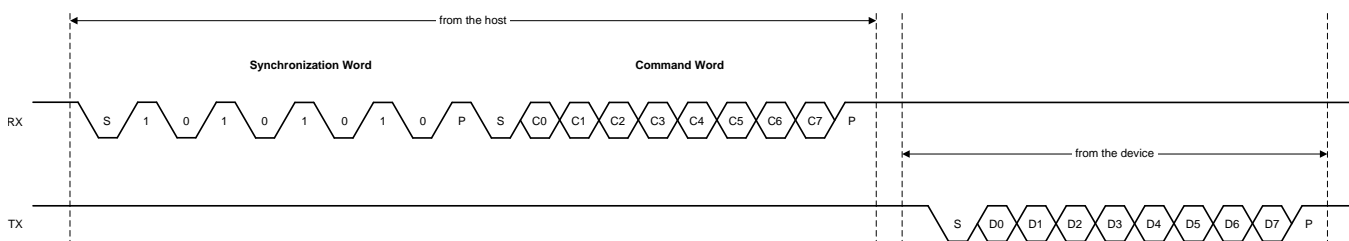

Figure 58. Example ADS122U04 UART Protocol
Figure 58 shows the timing sequence for the UART communication. In Figure 58, as an example, there is only one byte for the command and one byte for the readback data. There may be multiple bytes for a command or the data that is read from the device. The protocol takes the 8-N-1 format: eight (8) data bits, no (N) parity bit, and one (1) stop bit.